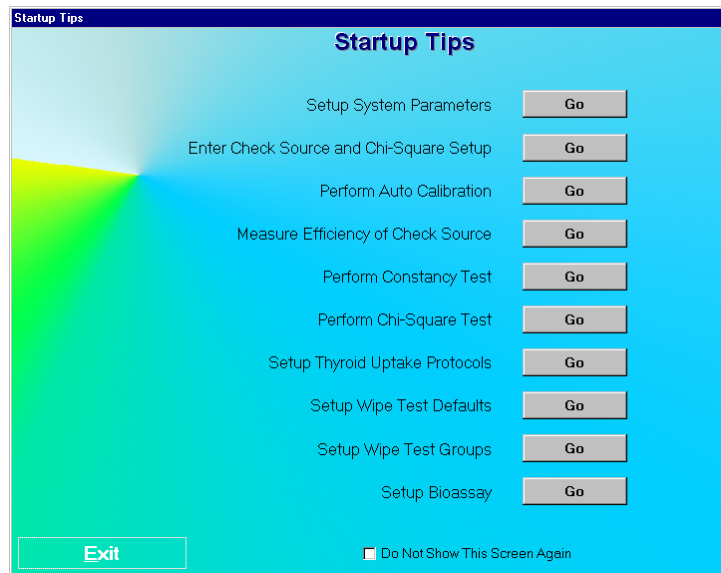

Figure 4-9 Startup Tips Window
If this is the first time the CAPTUS® 3000 software is run, the Startup Tips screen will be displayed as shown in Figure 4-9 Startup Tips Window.
- Click the **Done** button or press *Alt+D* to save the changes or click the **Cancel** button or press *Alt+C* to exit without saving the changes. Figure 4-9 Startup Tips Window will re-appear.